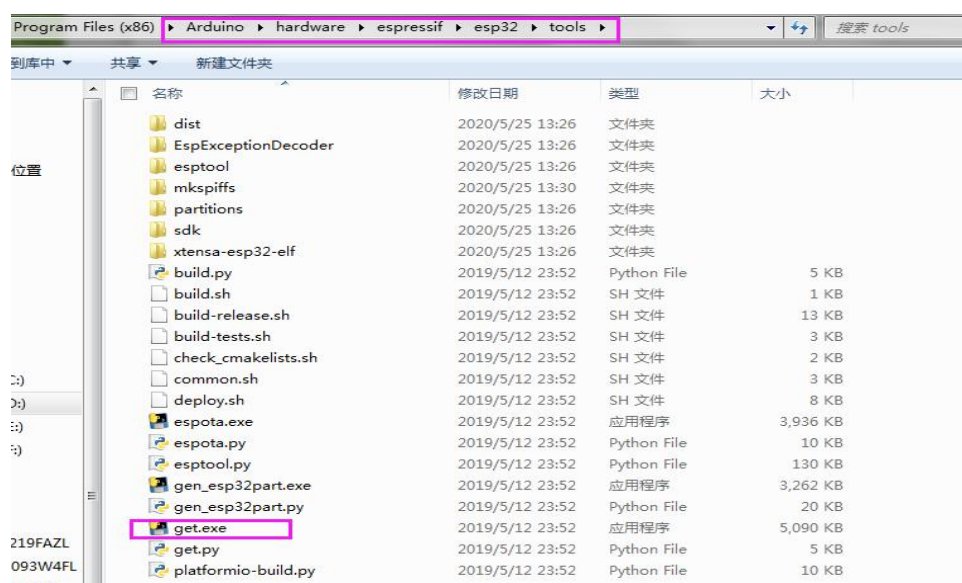

Figure 5 : Run the "get.exe" file
3) Run "get.exe" in esp32/tools(the premise is that the python plug-in is installed.) as shown in Figure 5.